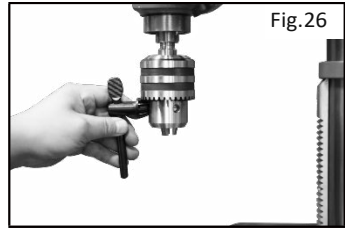

Fig.26
1. Using the chuck key, loosen the jaws of the chuck by rotating in an anti-clockwise direction (Fig. 26).